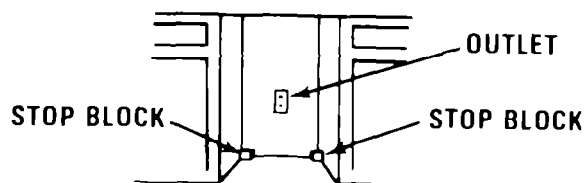

FIGURE 12
4. To prevent the power supply cord from being pinched, or the power supply cord plug from being crushed, install a stop block at the lower rear corners of the recessed opening. The blocks should be at least 3 4" (1.27 cm) deep by 2" (5.1 cm) wide, by 2" (5.1 cm) high. See Figure 12 for details.